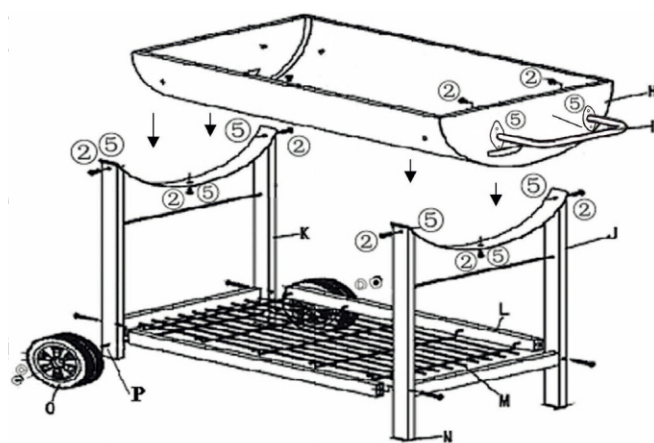

Fig. 2
3. Fix the support legs (J and K) to the fire bowl (H) using bolts (2) and nuts (5) and assemble the middle of the fire bowl and the support legs with bolts (2) and nuts (5). **(Fig. 2)**
4. Fix the handle (I) to the side of the fire bowl (H) by using bolts (2) and nuts (5). **(Fig. 2)**